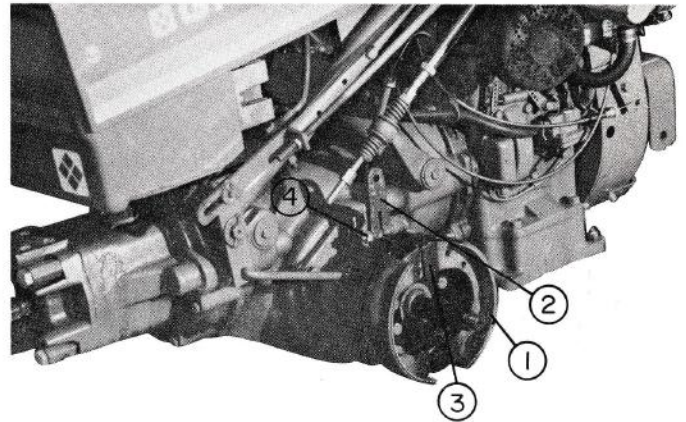

Fig. 15
11. Install the brake shoe assembly over the axle and secure with the four bolts removed in step 10. See fig. 15. Torque the bolts to 30-35 ft. lbs. (40.68-47.46 Nm).
12. Install the cam lever on the brake cam and tighten the bolt and nut. The lever arm must be in a vertical position. See fig. 15.